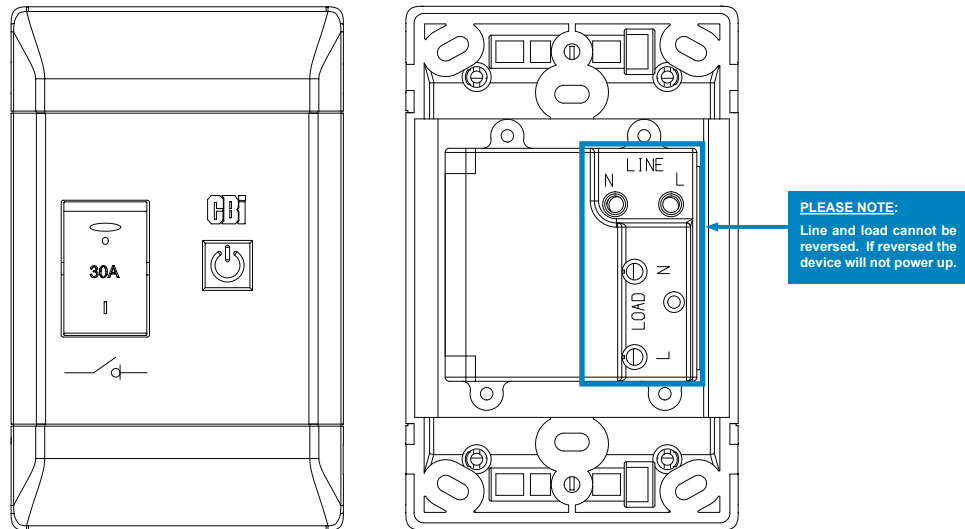

Figure 1: ASI installation
4. Connect the ASI according to Figure 1. Observe markings for line and load terminals.